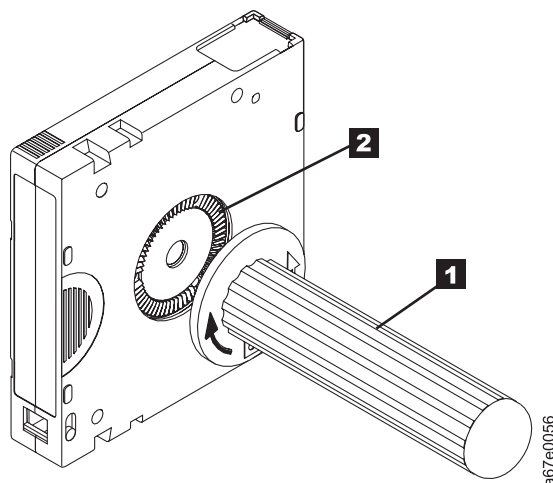

Figure A-6. Rewinding the tape into the cartridge
5. To rewind the tape, insert the cartridge manual rewind tool (**1** in Figure A-6) into the cartridge's hub (**2**) and turn it clockwise until the tape becomes taut.